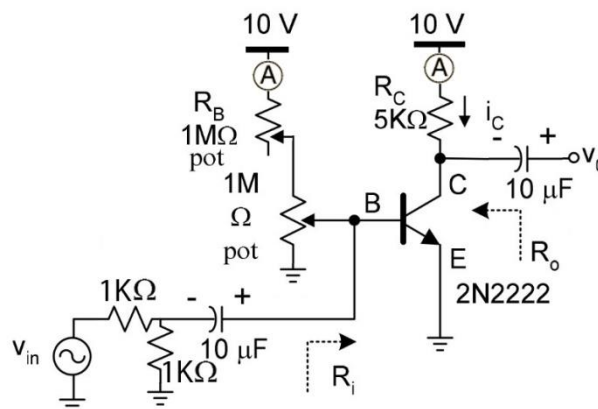

Figure 43: BJT transistor circuit 01
1. Assume the transistor you will use has a  $\beta$  of 155 and  $V_{BE(on)}=0.65$  V. For the circuit in Figure 43, calculate the overall resistance ( $R_B$  pots) such that  $I_C=1$  mA.
2. Connect the circuit in Figure 43. The power supplies are 10V.